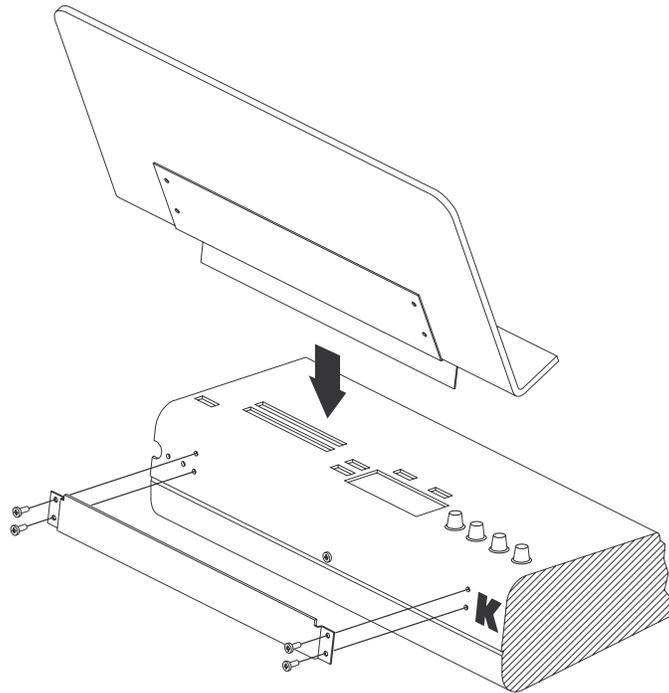

Figure 2-2 Installing the music rack
1. Remove the four screws on the rear panel of the PC1, as shown in Figure 2-2.